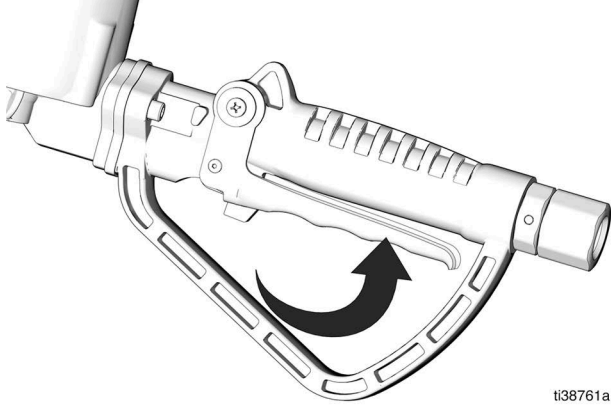

FIG. 6
8. To stop dispensing before the Preset amount is reached, release the trigger latch by pulling the trigger toward the valve body, and releasing the trigger (FIG. 6 and FIG. 7).